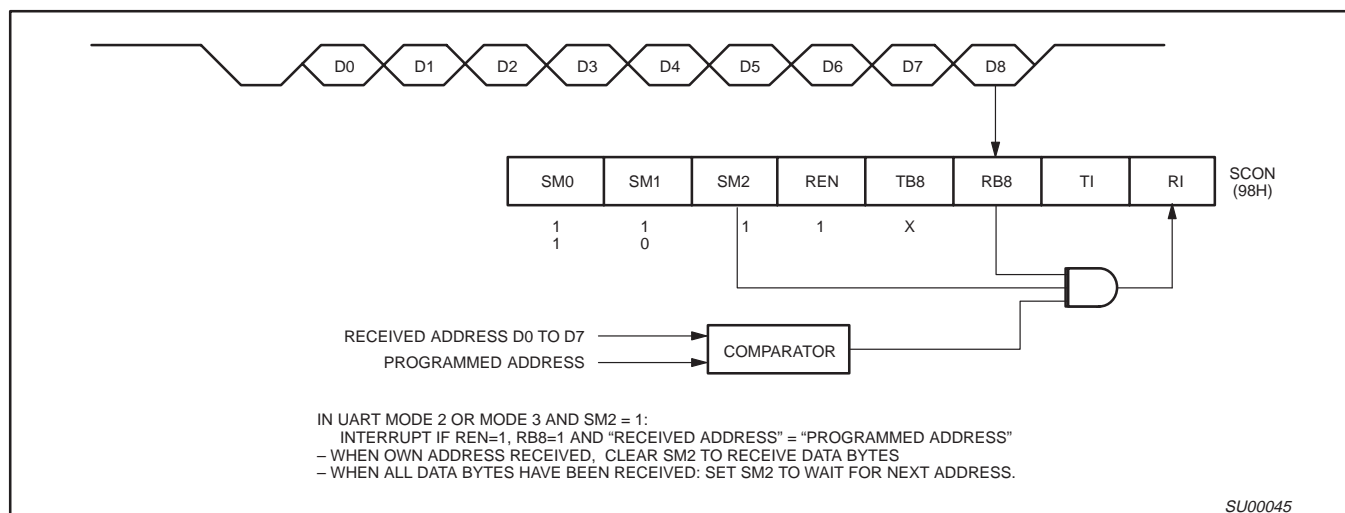

Figure 22. UART Multiprocessor Communication, Automatic Address Recognition
Automatic Address Recognition is a feature which allows the UART to recognize certain addresses in the serial bit stream by using hardware to make the comparisons. This feature saves a great deal of software overhead by eliminating the need for the software to examine every serial address which passes by the serial port. This feature is enabled by setting the SM2 bit in SCON. In the 9 bit UART modes, mode 2 and mode 3, the Receive Interrupt flag (RI) will be automatically set when the received byte contains either the "Given" address or the "Broadcast" address. The 9 bit mode requires that the 9th information bit is a 1 to indicate that the received information is an address and not data. Automatic address recognition is shown in Figure 22.